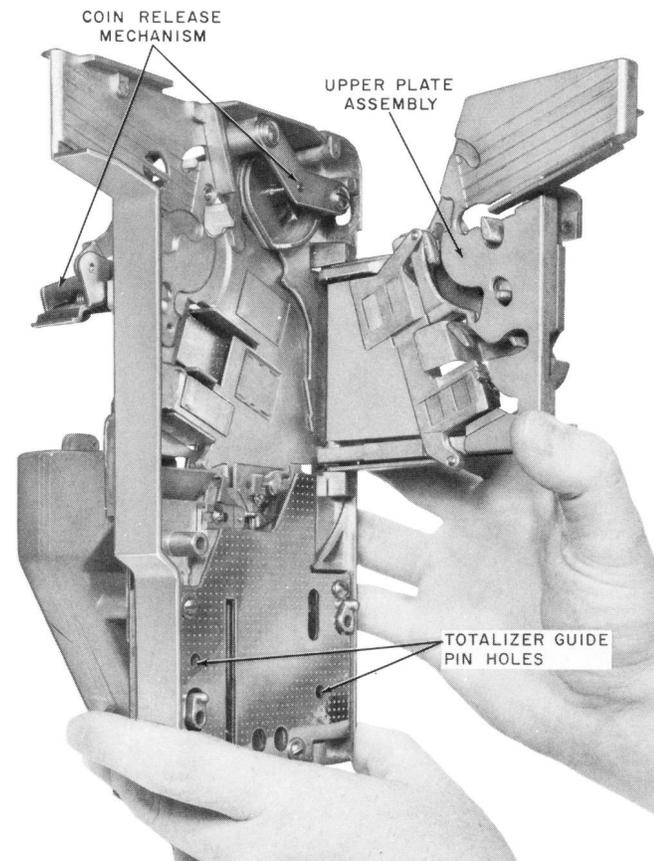

Fig. 7 — Coin Chute Assembly
- (1) Operate coin release lever in attempt to clear coins into return chute.
- (2) If trouble does not clear, remove coin telephone cover and remove coin chute-totalizer assembly (3.03).
- (3) Swing upper plate assembly open (Fig. 7) and remove any foreign objects or stuck coins from upper portion on coin chute.
- (4) Remove totalizer from coin chute (3.05) only when necessary to clear objects that cannot be dislodged from lower portion of coin chute.